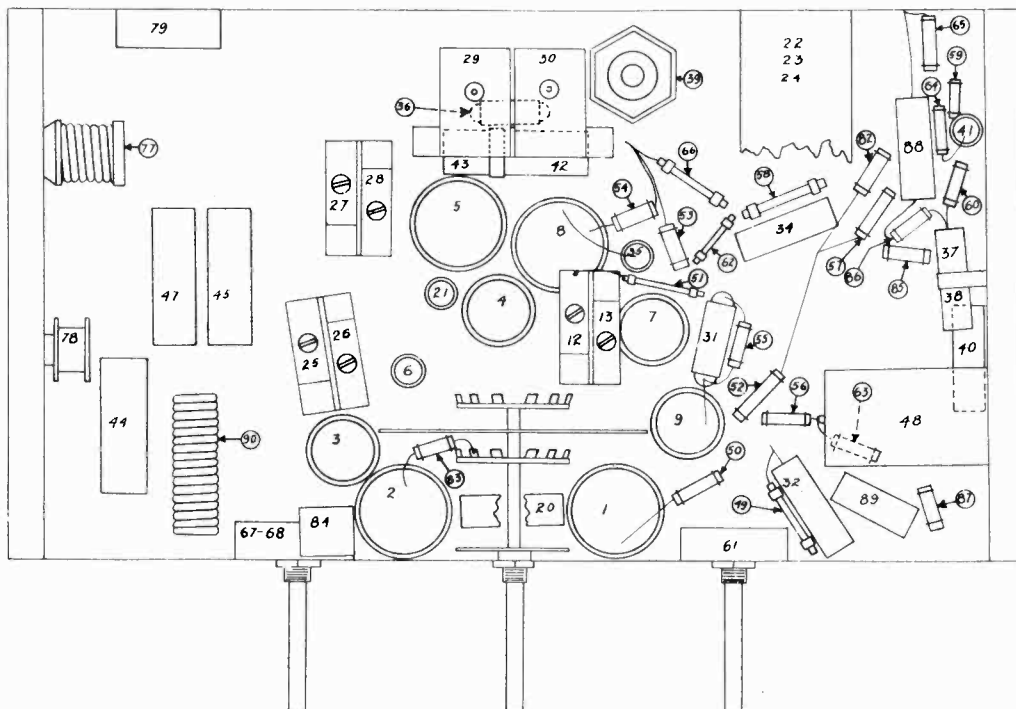

FIG. 3 - BOTTOM VIEW
- (b) Set the test oscillator to 1400 kilocycles. Rotate the station selector until the dial pointer points to 140 on the dial. Then adjust the oscillator parallel trimmer condenser, Fig. 3, for Band No. 1 for maximum reading on the output meter.